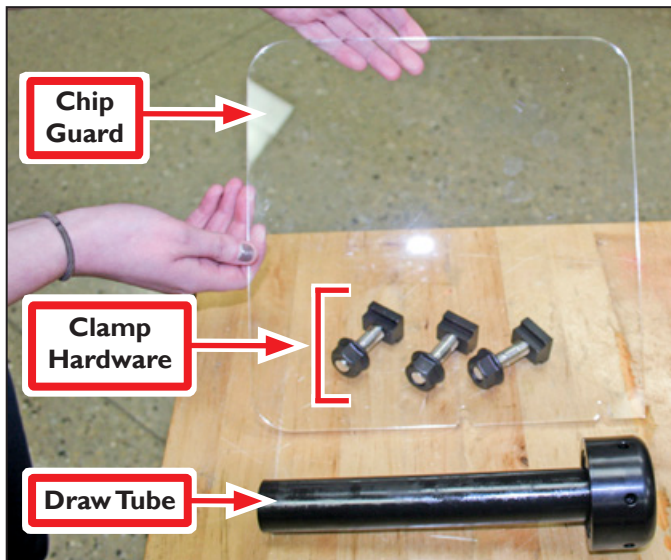
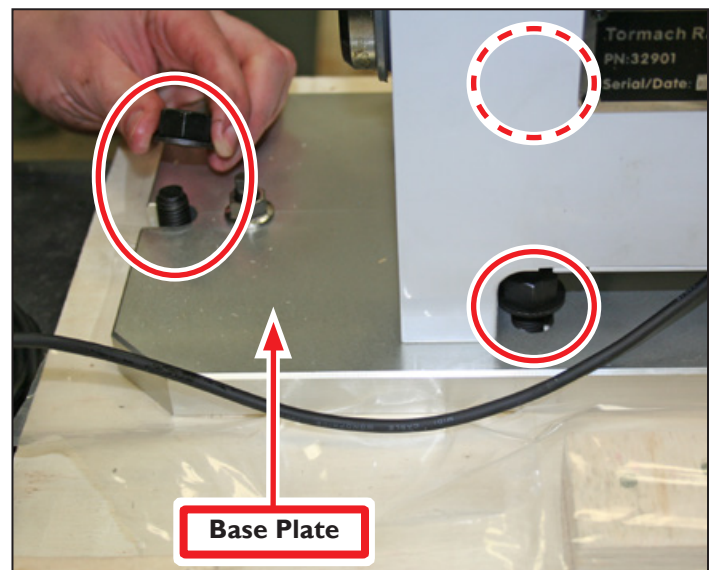

Figure 2.4
Figure 2.9
1. Remove Chip Guard, Clamp Hardware (three flange nuts, three threaded studs, and three T-nuts), and Draw Tube from pallet (see **Figure 2.4**); set aside.
7. Using an adjustable wrench, loosen and remove three hex head bolts securing RapidTurn Base Plate to shipping pallet (see **Figure 2.9**); discard. Clamp Hardware (see **Figure 2.4**) is used in place of hex head bolts to secure RapidTurn to machine table.
NOTE: One hex head bolt is on front of Base Plate; two others are underneath RapidTurn headstock (see **Figure 2.9**).
2. Identify Clamp Hardware set aside earlier (see **Figure 2.4**); remove flange nut from each threaded stud and set aside.